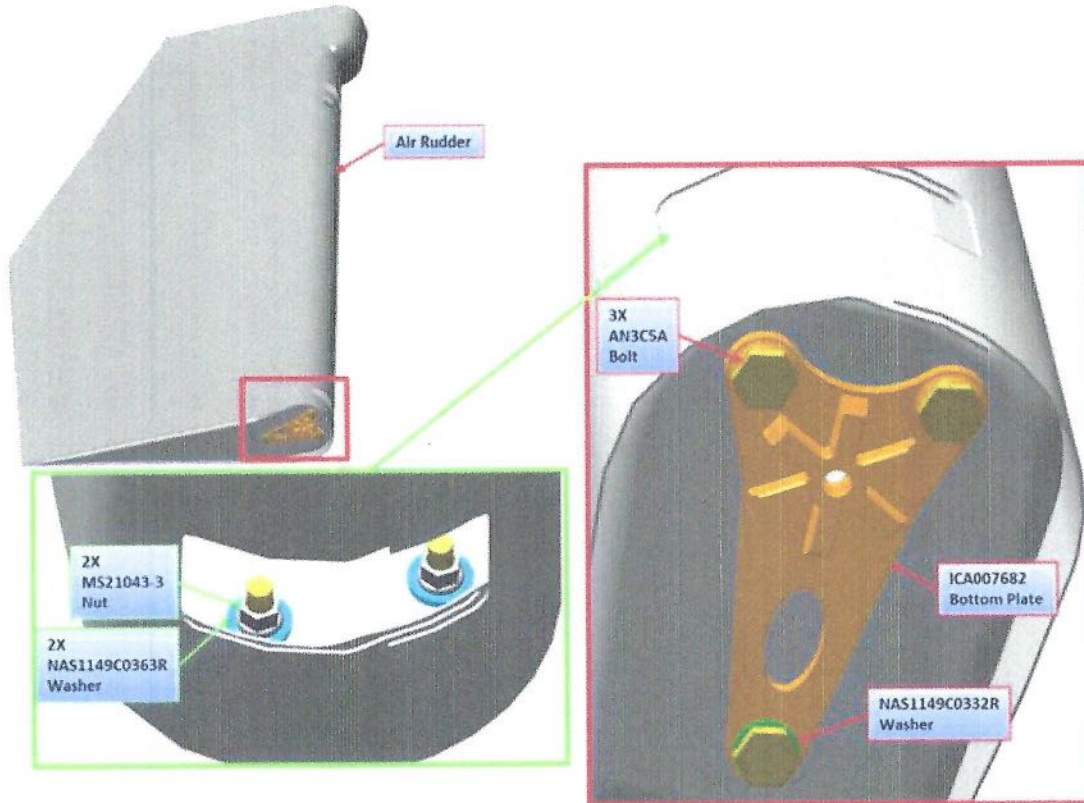

Figure 5
- CM 7. Wet install the ICA007682 bottom plate on the removed air rudder using 3x bolts AN3C5A, 2x washers NAS1149C0363R and 1x washer NAS1149C0332R as shown in Figure 5.
- CM 8. Wet install 2x nuts (MS21043-3) and 2x washers (NAS1149C0363R) as shown in Figure 5.